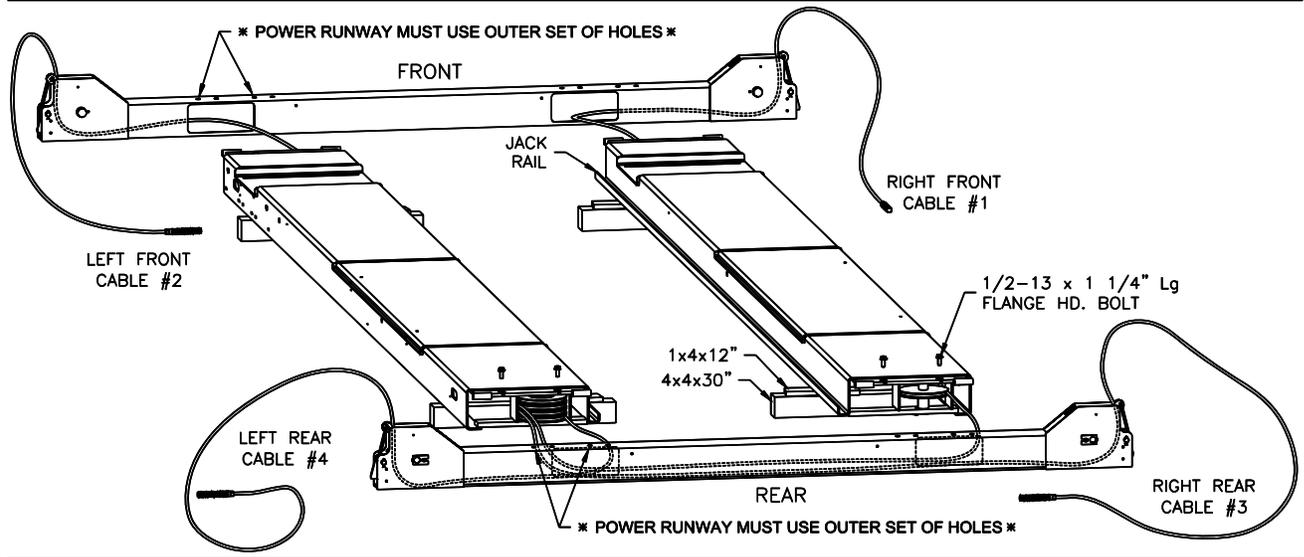

**Fig 3 – Power Runway 4-Stack (rear view)**
- 2) Unpack lift. Remove all packaging from Power Runway (power runway has four cable sheaves at rear end) and pull threaded cable ends out. Make sure the cables are in the proper sheaves at the 4-stack, **Fig 3**.